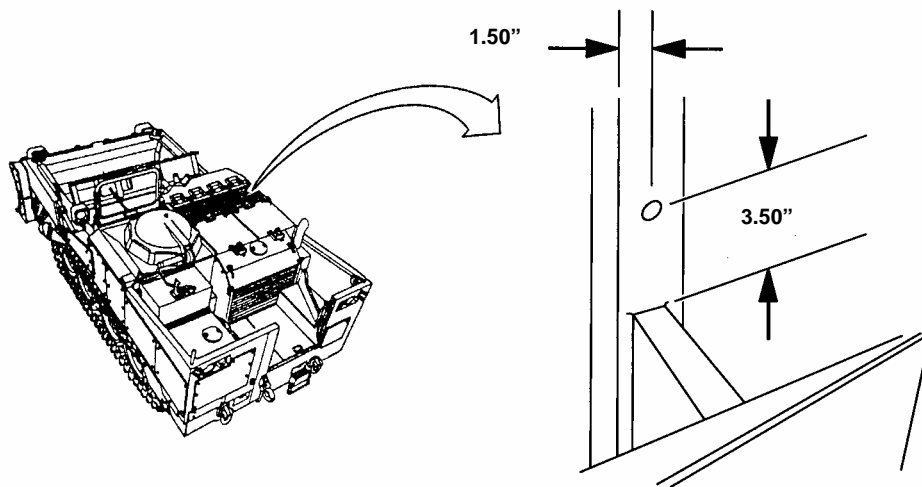

Figure 2-12. Blade Folder Hose Clamp Holes (2 of 2).
3. Drill 0.3125 inch (7.937 mm) diameter hole (Figure 2-12) on inside hull plate and cut threads using 3/8" - 16 tap.